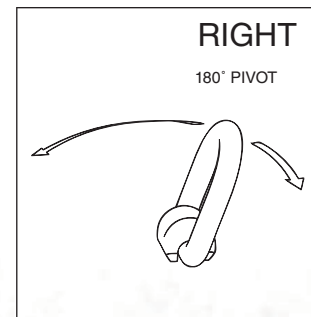

Figure 4
- Always ensure free movement of bail. The bail should pivot 180 degrees (Figure 4).
- Never apply load except in line with the pivot direction (Figure 4).
- Prior to loading always ensure free movement of bail. The bail should pivot 180 degrees and swivel 360 degrees (Fig. 4).